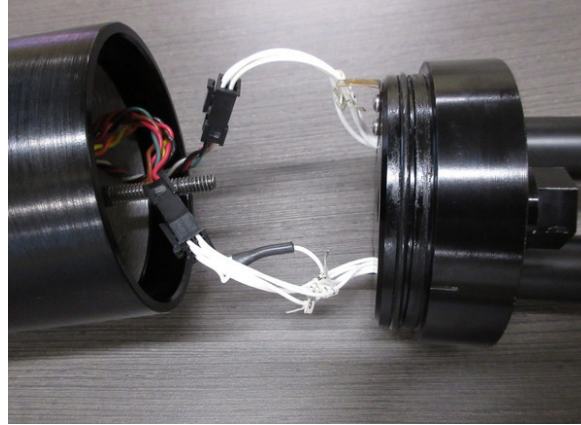

Figure 18: Disconnecting the rear bulkhead connections
4. Gently disconnect the Molex connectors on the wiring harnesses between the rear bulkhead and the internal electronics (Figure 18).